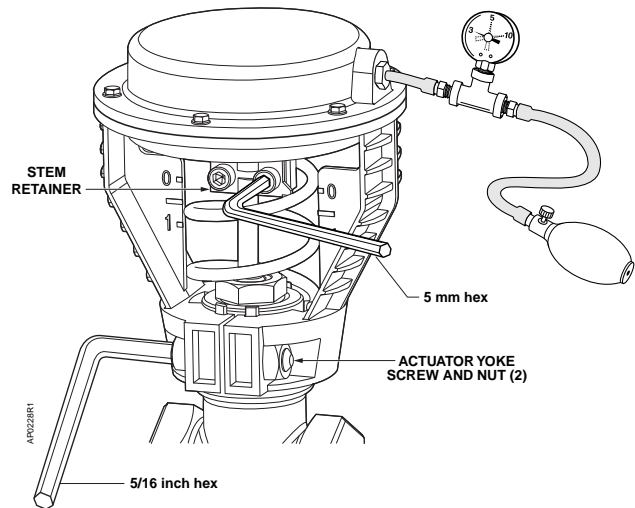

Figure 3. 4-inch Pneumatic Actuator.
3. Loosen the two stem retainer screws with the 5 mm hex wrench. See Figure 3.